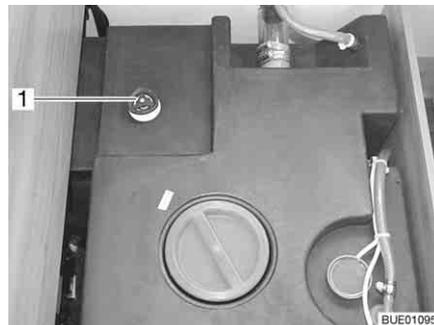

Fig. 241 Water tank with handle
- Turn the handle (Fig. 241,1) on the water tank in an anticlockwise direction as far as possible beyond the resistance to fully open the drainage opening.